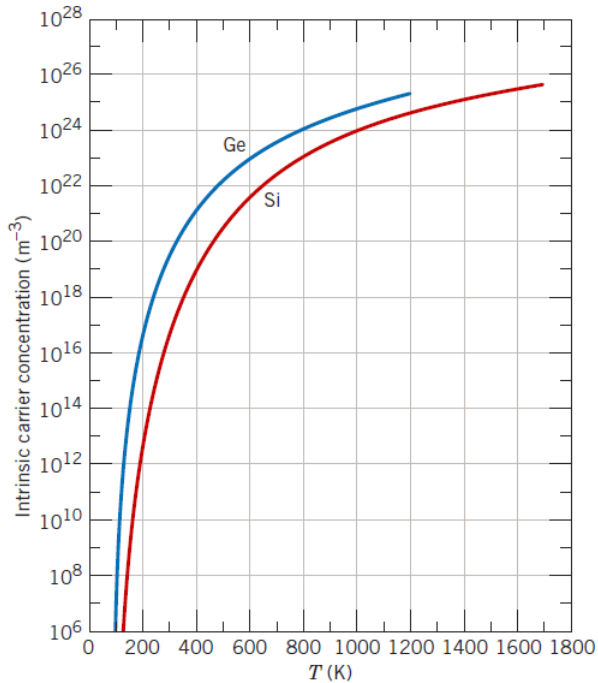

Figure 1: Intrinsic Carrier Concentration vs T
- (a) Using the data presented in Figure 1, determine the number of free electrons per atom for intrinsic germanium and silicon at 400 K. The densities for Ge and Si are 5.32 and 2.33 g/cm3, respectively.
Thus, a plot of  $\ln n_i$  versus  $1/T$  ( $K^{-1}$ ) should be linear and yield a slope of  $-E_g/2k$ . Using this information and the data presented in Figure 1, determine the band gap energies for Si and Ge, and compare these values with those given in Table 18.3 in your book. Using the graphing software of your choice (Excel, MATLAB, Mathematica, etc.) plot at least six values of  $\ln n$  vs  $1/T$  to calculate the slope. Attach a computer printout of your plot.